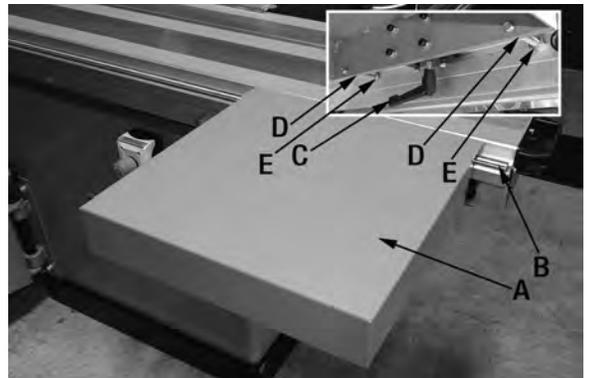

FIGURE 32
1. The sliding table extension table (A) Fig.32 gets installed to the round bar (B) on the left side of the sliding table. This extension table can only be installed from the back of the sliding table. Slide extension table from the rear onto the round bar until the outer edge is close to the front edge of the sliding table. Tighten lock handle (C) under the extension table to secure extension table.
2. The extension table must be level, place a bubble level on the extension table and verify the adjustment. If an adjustment is needed, loosen hex. nuts (D) and adjust the hex. bolts (E) in or out until the extension table is set perfectly level. Retighten hex. nuts (D).